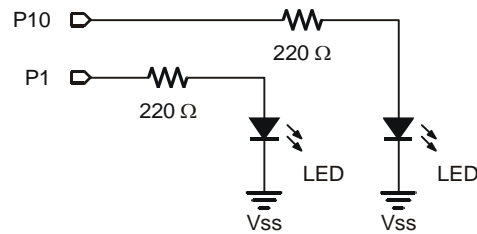

Figure 5-9
- ✓ If you have a Board of Education, add the circuit shown in Figure 5-9 with the help of the wiring diagram in Figure 5-10 (page 153).
- ✓ If you have a HomeWork Board, add the circuit shown in Figure 5-9 with the help of the wiring diagram in Figure 5-11 (page 154).